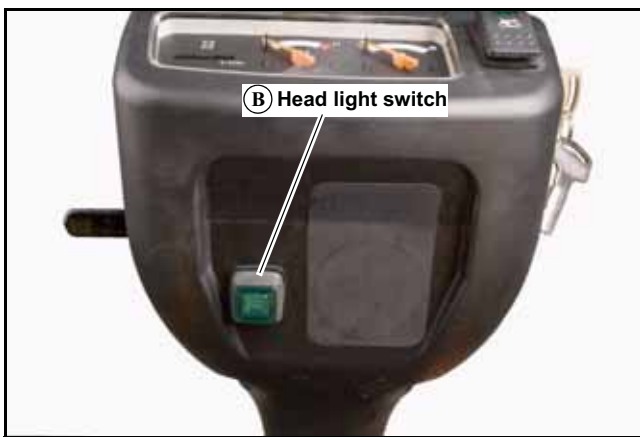

Figure 3-3
B. Head light switch (Figure 3-3) — This switch is located under the instrument panel. Push the switch in and rotate the ignition key to the “RUN” position to turn on the head lights.